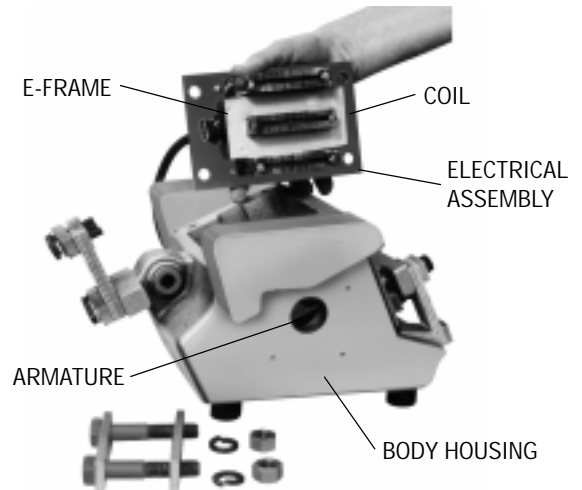

FIGURE 8
3. Remove the bolts securing the electrical assembly to the body housing and lift the assembly out of the body housing (see Figure 8).